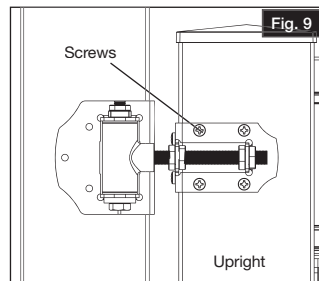

Fig. 9
- Mark and pre-drill $3/32$ " pilot holes on top and bottom upright. Secure using screws (provided with the hinge) to front and side of the upright (Fig. 9). Repeat for the bottom hinge.